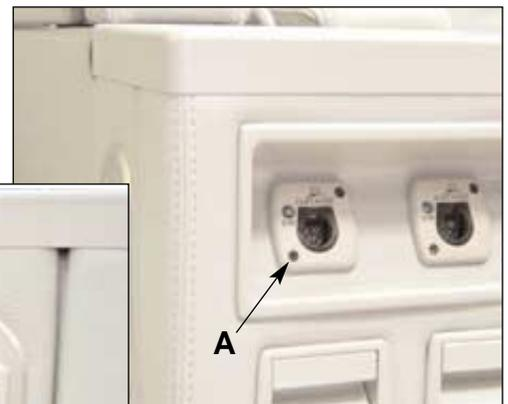

FIG. 312A:
- (10) To remove outlet assy, untighten its two attaching screws (A) (see fig. 312A); unplug connector.